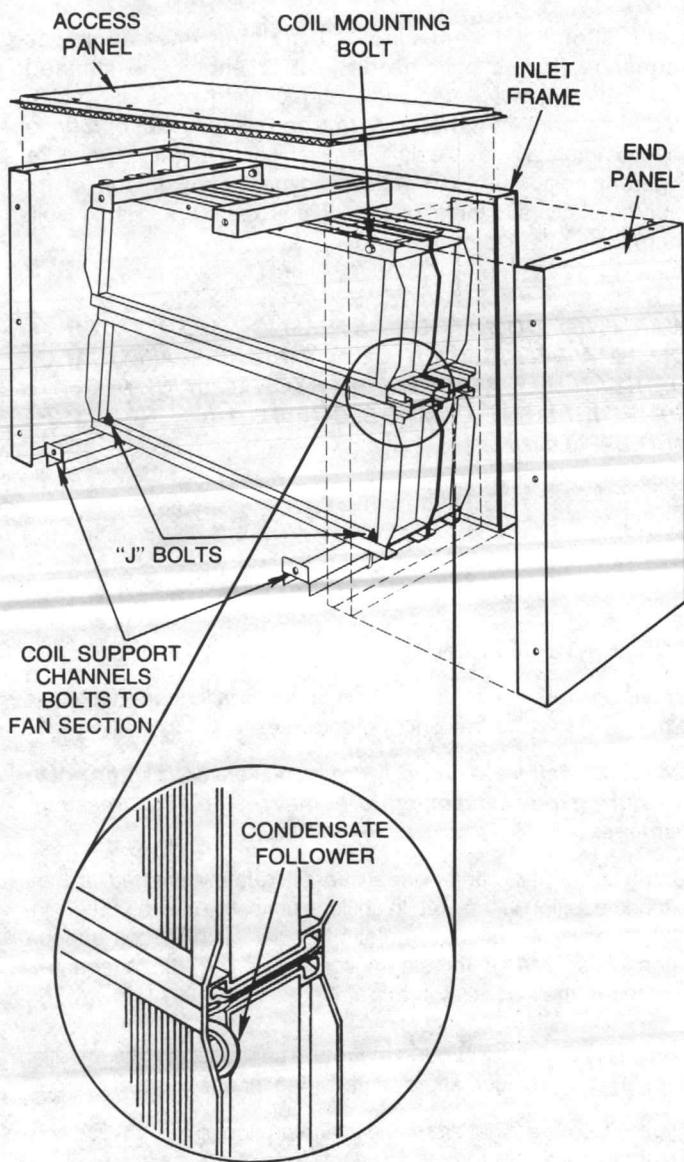

FIGURE 11 - Draw-Thru Coil Section Details with View of Condensate Follower
**NOTE: On units with stacked coils, there is a condensate follower located at the end of each coil connection. Figure 11 illustrates the location of the condensate follower provided at the end of the stacked coils.**